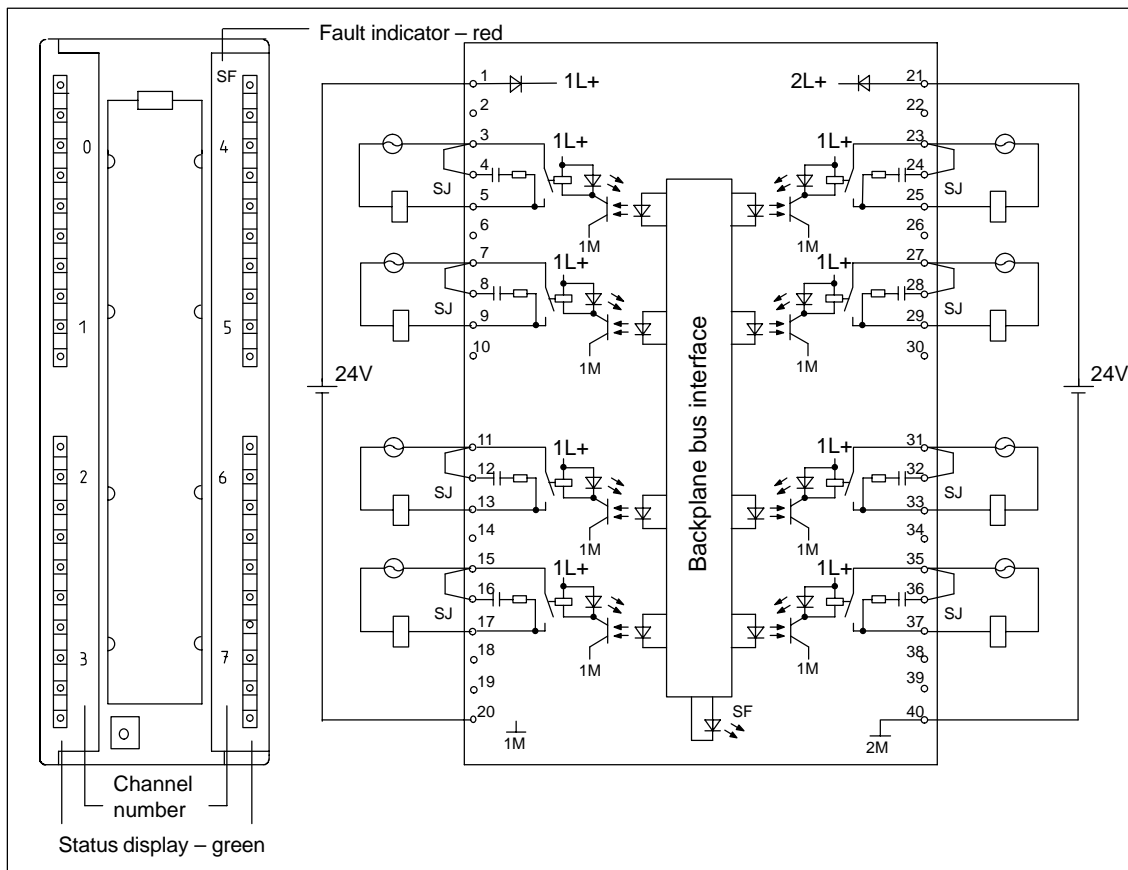

Figure 3-30 Module View and Block Diagram of the SM 322; DO 8 x Rel. 230 VAC/5A
You protect the contacts against overvoltages by inserting jumpers (SJ) on the module between terminals 3 and 4, 7 and 8, 12 and 13 etc. (refer to Figure 3-30).